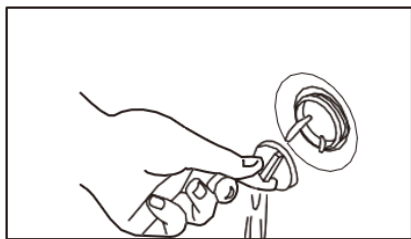

Fig. 9
- Drain the steamer by removing the drain plug (at the bottom of the main body) and emptying the contents (see Fig. 9). ALWAYS drain the water only after the appliance has completely cooled down.